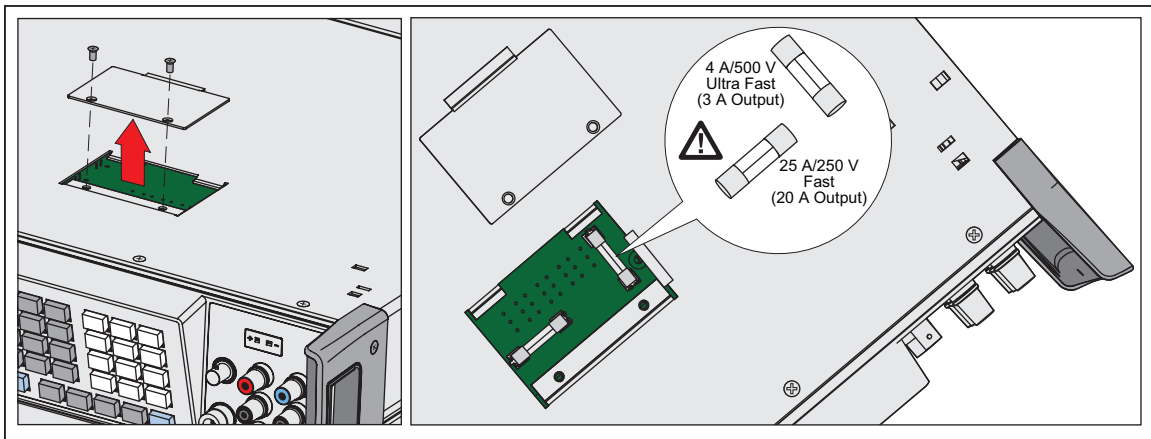

Figure 7-2. Current Fuse Replacement
2. Remove the two screws with a Phillips head screwdriver as shown in Figure 7-2.